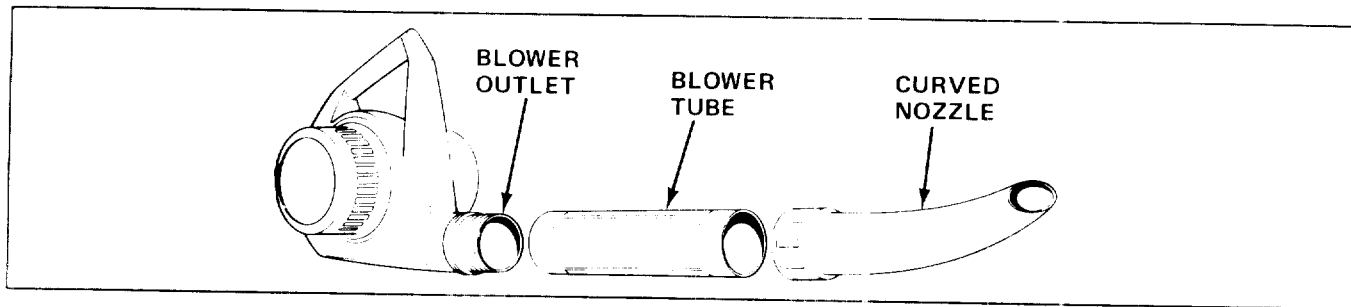

Figure 1
1. Thread nozzle and blower tube together with a twisting motion (Fig. 1).
2. Thread assembled tubes onto blower outlet (Fig. 1).